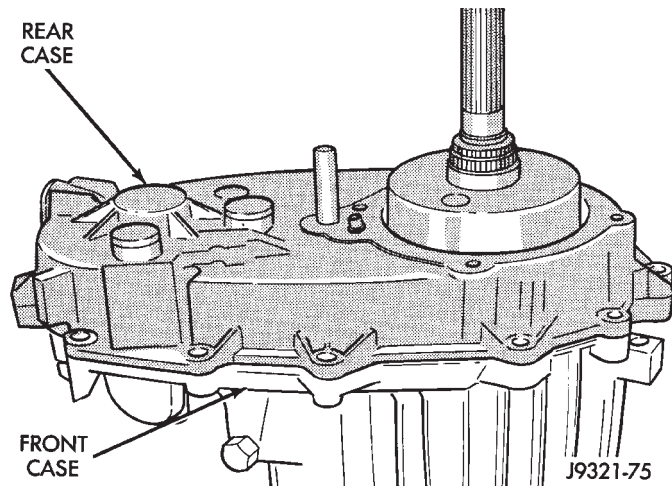

Fig. 66 Rear Case Installation
(12) Align and install rear case on front case (Fig. 66).